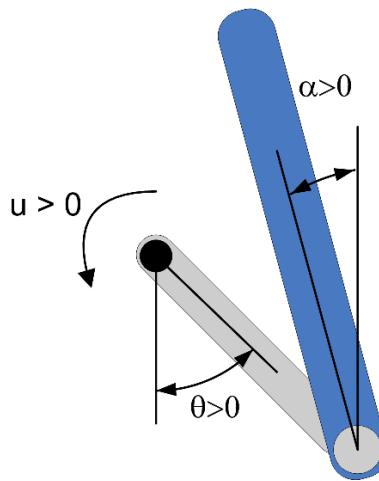

Figure 9.1: Free-body diagram of rotary pendulum
The rotary pendulum system, also known as the Furuta Pendulum, is a classic system often used to teach modeling and control in physics and engineering. The free-body diagram of a basic rotary pendulum is depicted in Figure 9.1.
9. Rotate the pendulum to the upright vertical position and ensure the angle is measured correctly and it follows the free-body diagram in Figure 9.1. Capture the response of the pendulum being raised to the inverted position. Explain what the bias and modulus functions do?